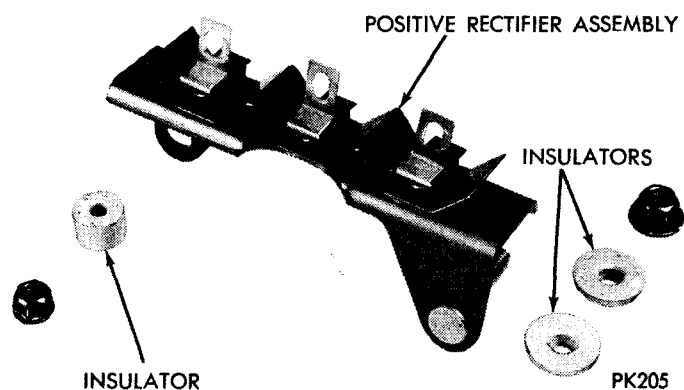
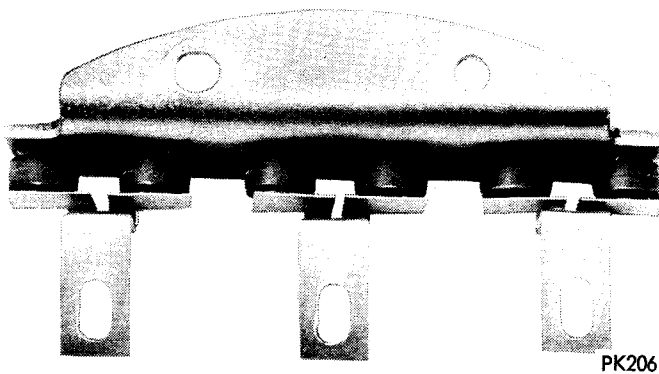

Fig. 49—Positive Rectifier Assembly and Insulators
Fig. 50—Negative Rectifier Assembly Removed
(1) From inside of rectifier end shield remove nut and insulator attaching positive heat sink assembly to end shield stud.
(2) Remove screw attaching capacitor to end shield.
(3) From outside of rectifier end shield remove nut and insulator attaching positive heat sink assembly stud to end shield.
(4) Remove positive heat sink assembly and note location of all insulators (Fig. 49).
(5) Remove two screws attaching negative heat sink assembly to rectifier end shield.
(6) Remove negative heat sink assembly (Fig. 50).
(7) Remove two screws attaching terminal block to end shield.
(8) Remove terminal block.
(9) Remove capacitor and insulator.